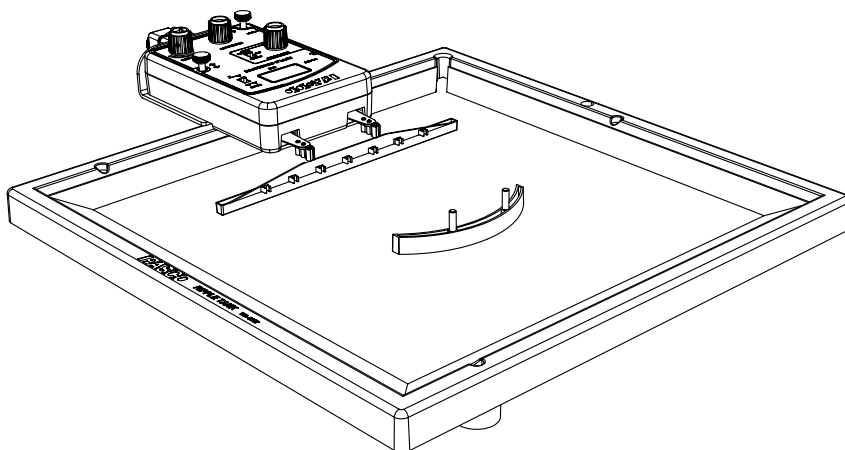

Figure 1.3: Position of Curved Barrier
1. Replace the straight barrier with the curved barrier and position the curved barrier so it is aligned 'parallel' to the plane wave dipper as shown in Figure 1.3.